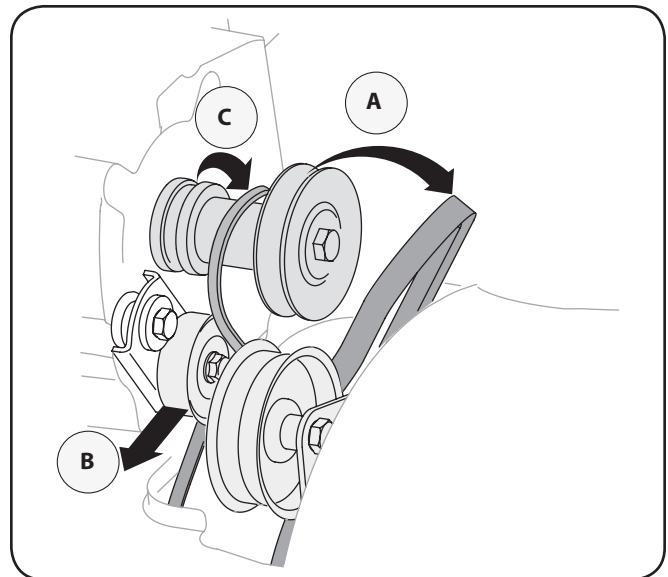

Figure 7-6
- Pivot the idler pulley toward the right. See Fig. 7-6.